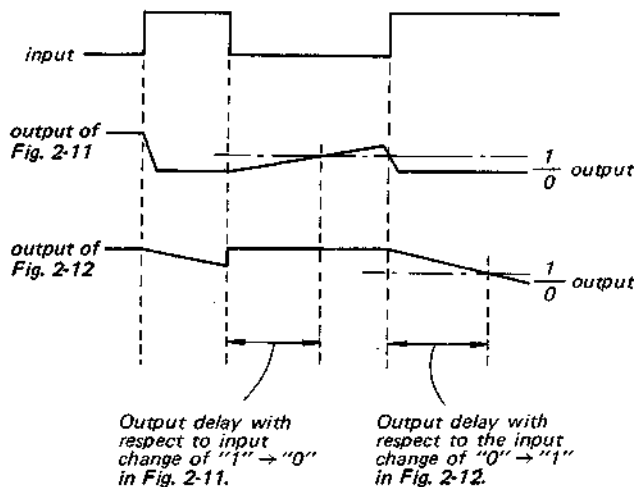

Fig. 2-13
A square wave input applied to these circuits results in a triangular wave output. However, because of the diode (D), the resistor R' will only be included in either the charging or the discharging path of the capacitor and hence the output will be a triangular wave only during the positive or the negative portion of the input wave, depending on the polarity of the diode. The waveforms of these circuits will be as shown in Fig. 2-13 if we assume  $R \gg R'$ .